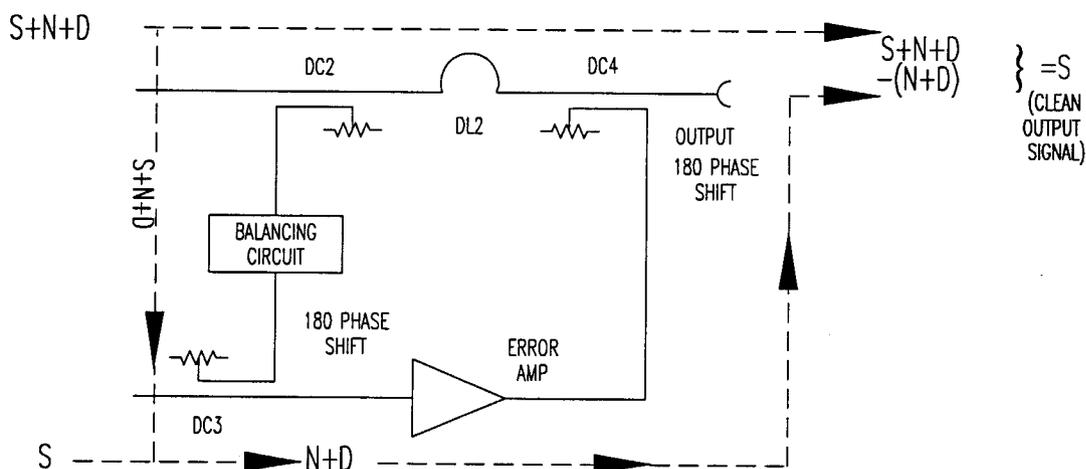

Figure 5: Second Loop Cancellation
As Figure 5 shows, the isolated (N+D) is received from the first loop at DC₃ and input to the second loop, where it is processed by the Error Processing circuit. At coupler DC₄, Error Processing circuit output (N+D) is combined with Main Amplifier circuit output (S+N+D). The two signals are combined antiphase to substantially reduce (N+D), producing a signal (S) with improved noise and distortion characteristics at the final output.